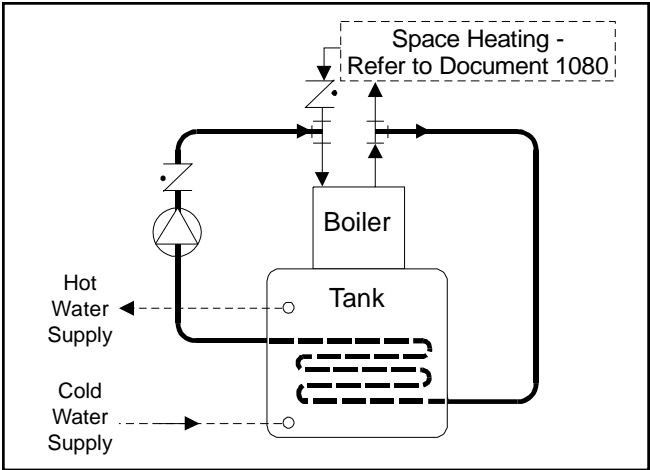

Figure 3. Piping Schematic.
- Before piping the boiler to the heating system, be sure to install the system check valve (provided with the unit) onto the inlet (return) tee of the boiler with arrow pointed downward (see Figure 3).